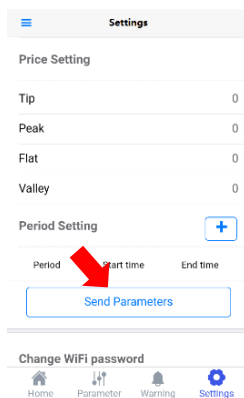

Figure 4-5
STEP 7: Tap “Send Parameters” (Figure 4-5).